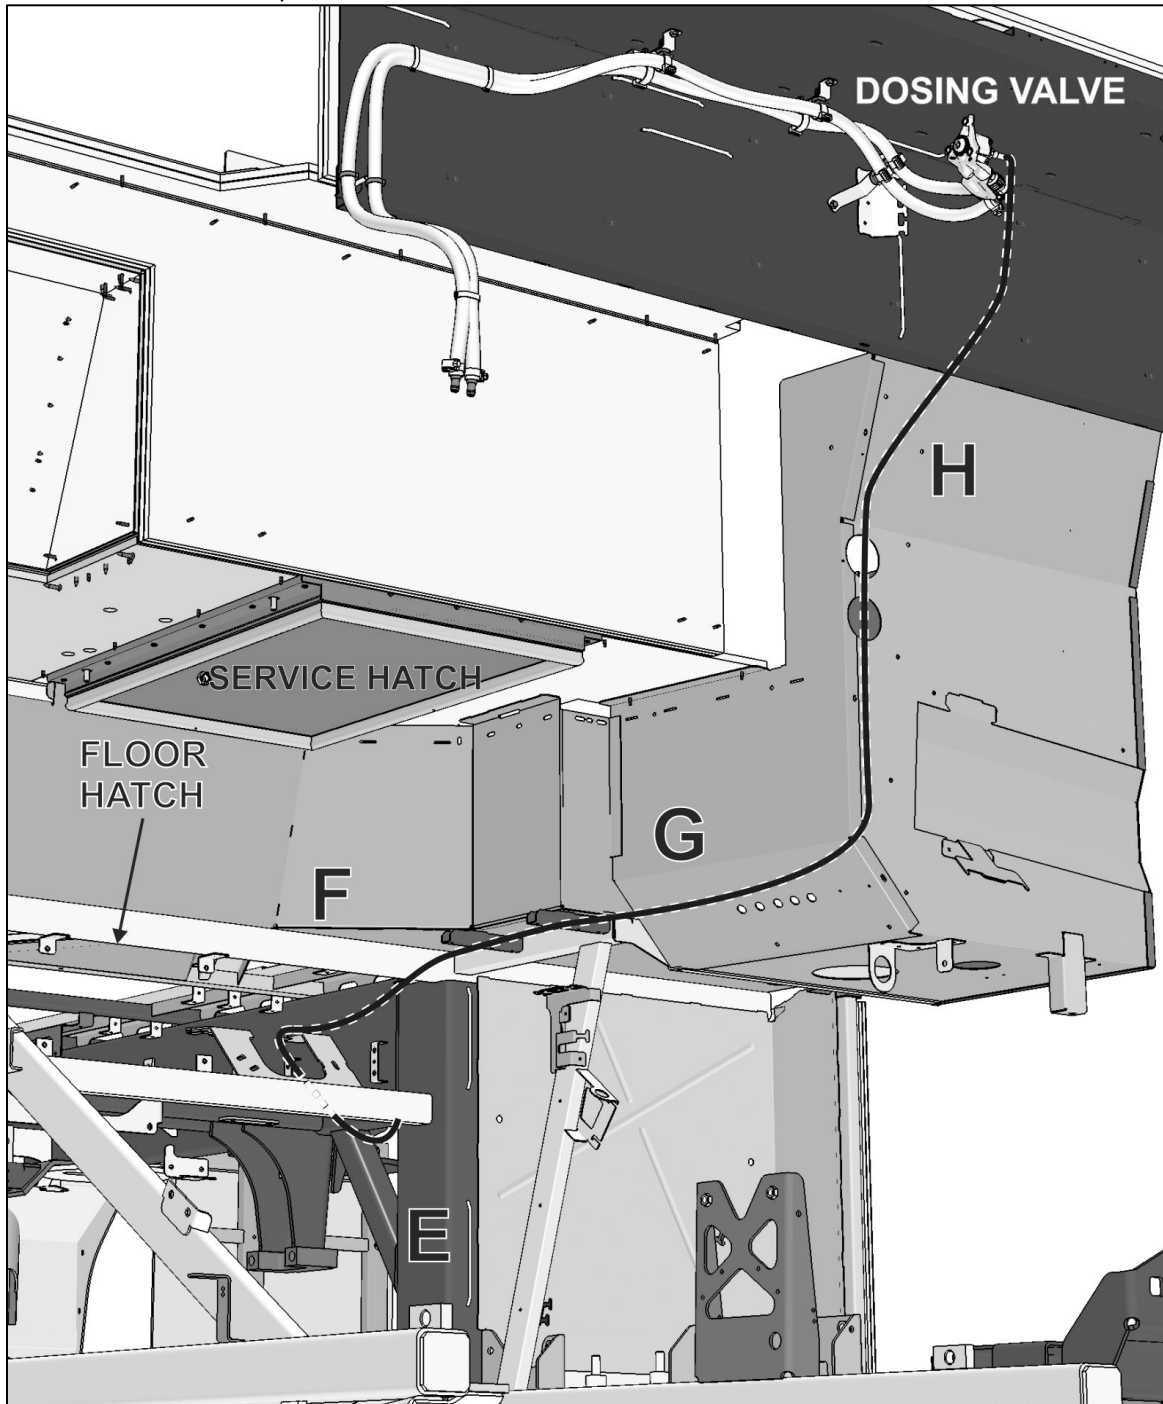

FIGURE 19
- B10.** Route up to urea dosing valve and connect. (Fig.19)